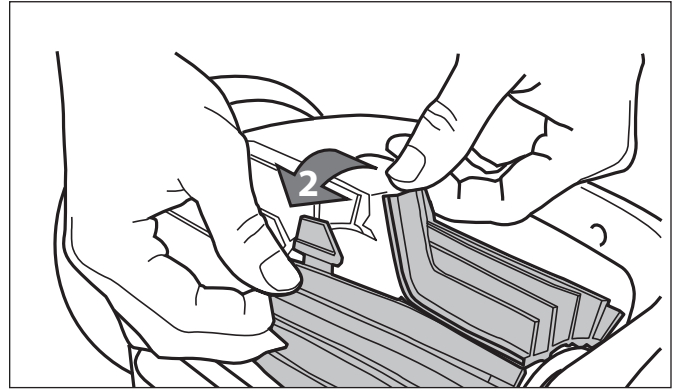

Figure 27. Undo the Tabs of the Brush
2. Separate the edges of the brush and undo the tabs (Figure 27). Remove the worn brushes.